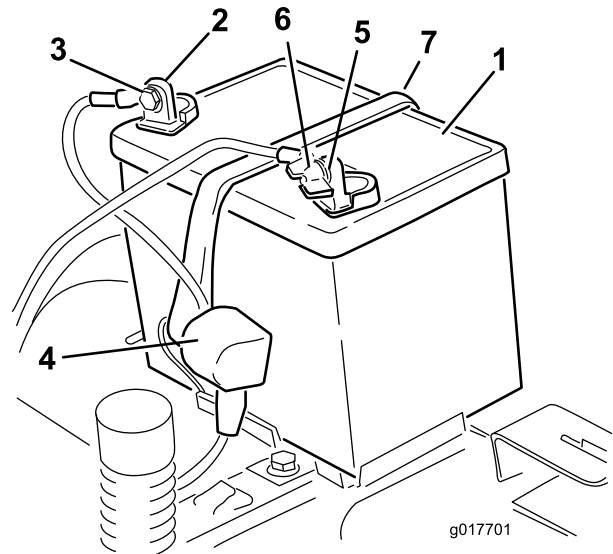

Figure 39
4. Disconnect the negative (black) ground cable from the battery post (Figure 39).
6. Disconnect the positive (red) cable from the battery post (Figure 39).
7. Remove the battery hold-down (Figure 39), and lift the battery from the battery tray.
1. Position the battery in the tray (Figure 39).
5. Secure the battery with the hold-down (Figure 39).